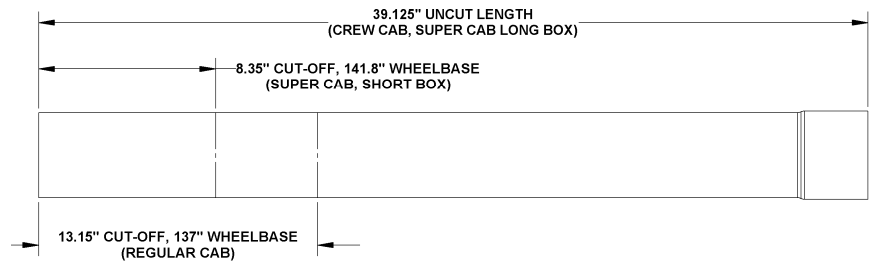

Figure 1
2. For installations on the 141.8" (super cab, short box) or 137" (regular cab) wheelbase, the **Extension Pipe** and **Hanger Clamp** are discarded and the **Mid Pipe** must be cut to the appropriate length. Refer to **Figure 1**.